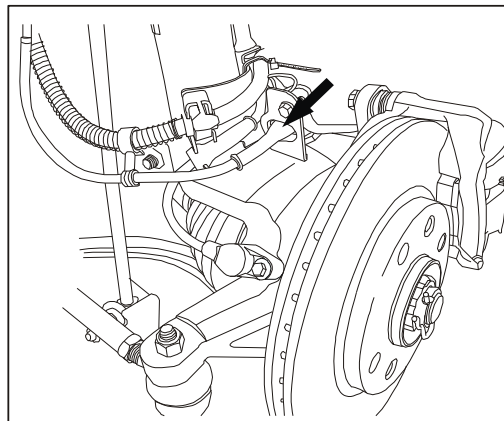

Fig.5-15 Connection of brake block wear indication sensor harness
4) Connect the wear indication sensor harness of brake block (optional), as shown in Fig.5-15.